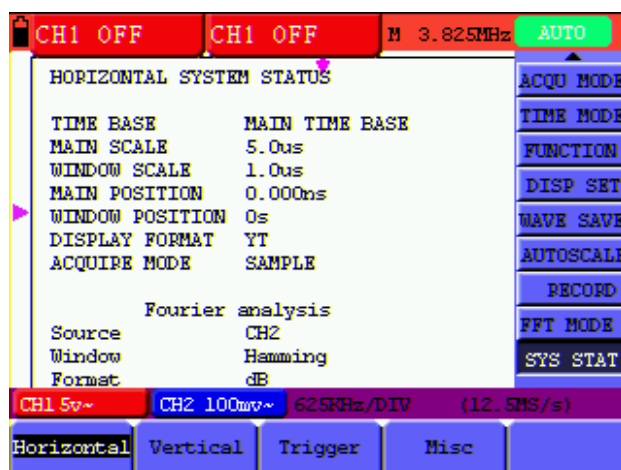

Figure 67: System State
4. The screen that looks like the following figure 67 will be displayed.